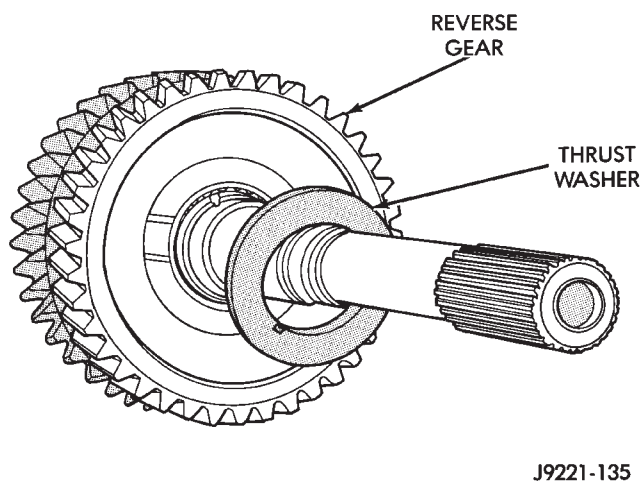

Fig. 73 Reverse Gear Thrust Washer Removal
(18) Remove reverse gear thrust washer (Fig. 73).